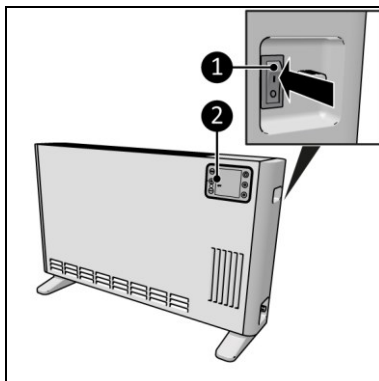

Figure 13
1. Set the ON/OFF switch to the ON position (Figure 13, pos. 1).
2. The display (Figure 13, pos. 2) will show OFF.